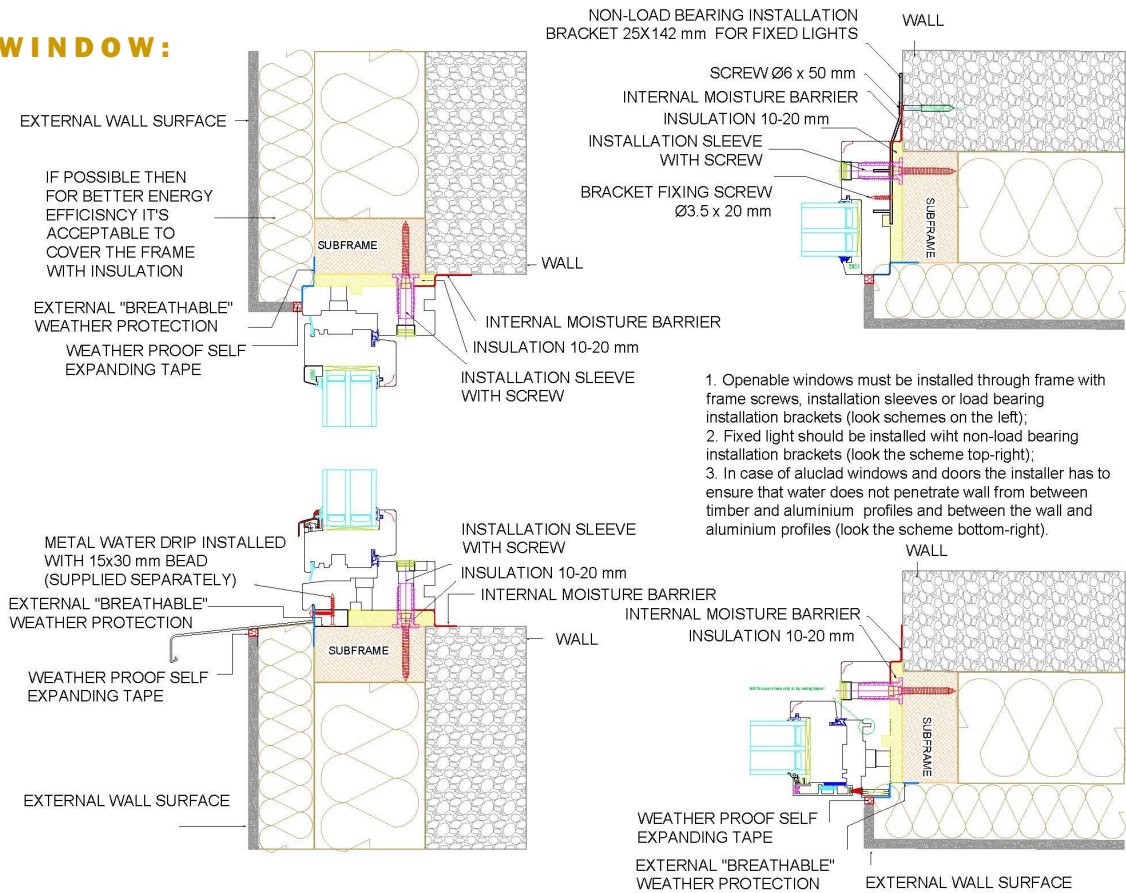

Figure 5. The installation schemes of SW17 outwards opening window
- Non-opening products (and the non-opening parts of products with multiple holes) are attached to the wall similarly to an opening product (part of an opening product), if possible; if this is not possible, use special installation brackets that are attached to the outer part of the jamb as an alternative (see figure 5 on page 5);